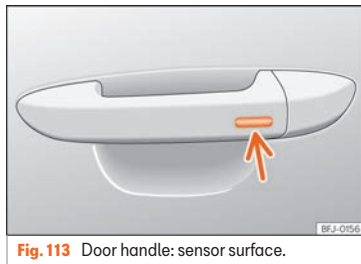

Fig. 113 Door handle: sensor surface.
- Press and hold the locking sensor surface »» Fig. 113 (arrow) on the door handle to close the sunroof. If you release the sensor surface, the closing movement stops.
The anti-trap function can reduce the risk of injury when closing the sunroof and the sun blind »» Fig. 113 (arrow). If the sunroof or sun blind encounter resistance or an obstacle when closing, they reopen immediately.